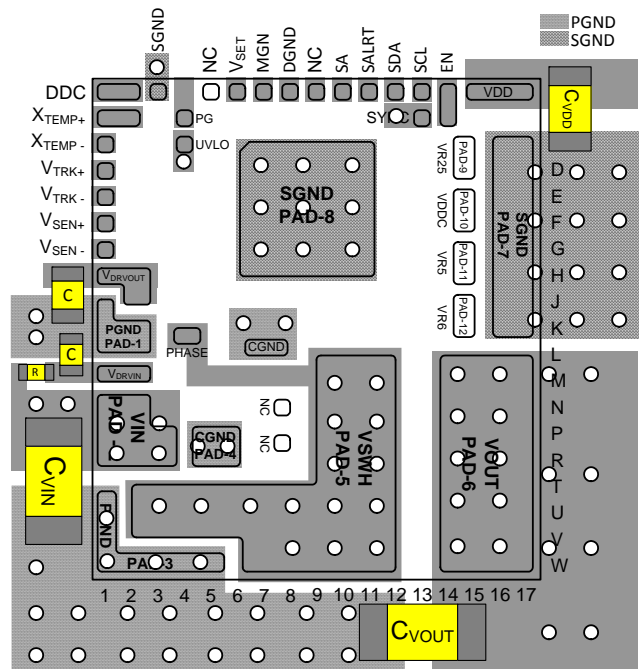
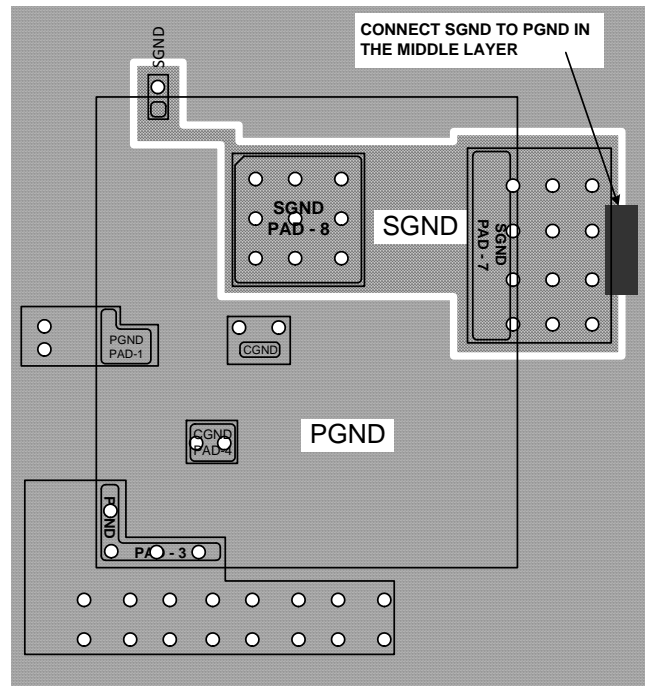

FIGURE 28. RECOMMENDED LAYOUT - TOP PCB LAYER
FIGURE 29. RECOMMENDED LAYOUT - CONNECT SGND TO PGND IN THE MIDDLE PCB LAYER AFTER ESTABLISHING SEPARATE SGND AND PGND
- For $VDD > 6V$ recommended PCB layout is shown in Figure 28. Leave V25, VDDC, VR5, and VR6 as no connect.
- Establish separate SGND plane and PGND plane, then connect SGND to PGND plane as shown in Figure 29 in the middle layer. For making connections between SGND/PGND on the top layer and other layers use multiple vias for each pin to connect to inner SGND/PGND layer. Do not connect SGND directly to PGND on a top layer. Connecting SGND directly to PGND without establishing SGND plane will bypass the decoupling capacitor at internal reference supplies, making controller susceptible to noise. Connect CGND to PGND with vias as shown in Figure 28.